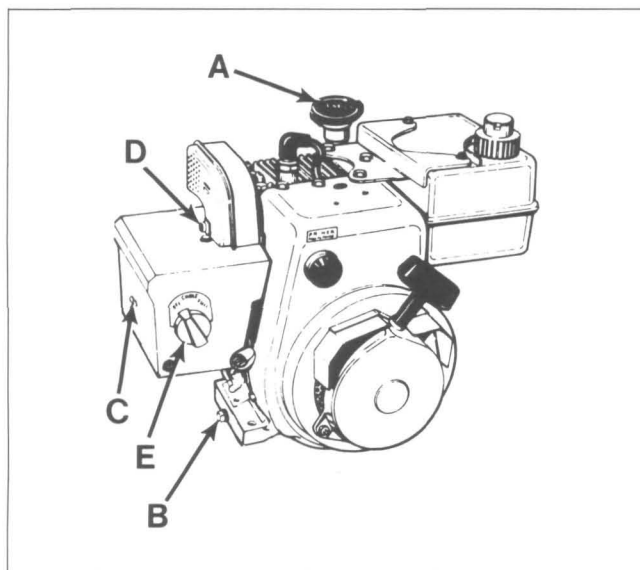

Figure 5-1
2. Unscrew the dipstick (Figure 5-1, Item A). Use a clean cloth to wipe the dipstick.